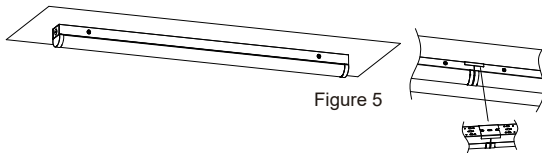

Figure 5
- Step5. Connect the wires according to safety requirements, and then install the lamp body back to the chassis, By using a extra mounting bracket, the lights can be connected in series (Figure 5) (Product connection: 20W lamps can be connected to maximum 50pcs, 40W 20pcs, and 60W 13pcs, and 70W 12pcs, and 80W 11pcs, and 90W 10pcs)